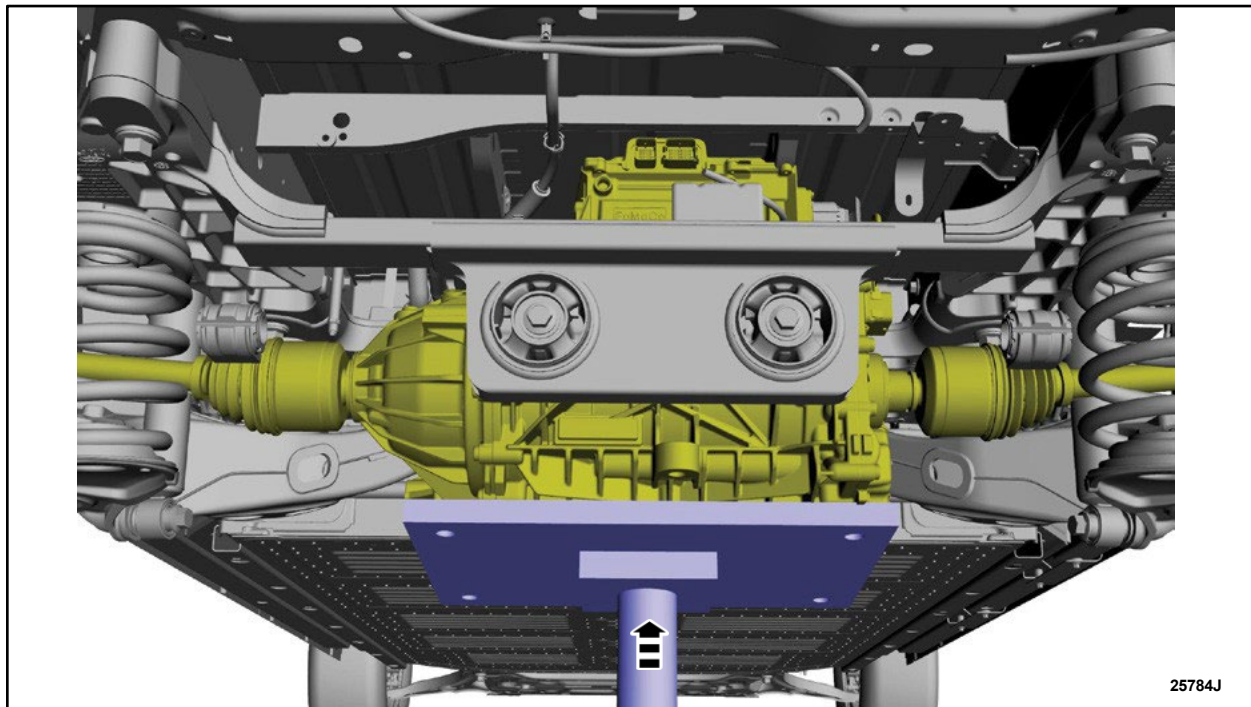

FIGURE 14
18. Using a transmission jack and wooden blocks, support the rear electric drive assembly. Install a safety strap. See Figure 14.